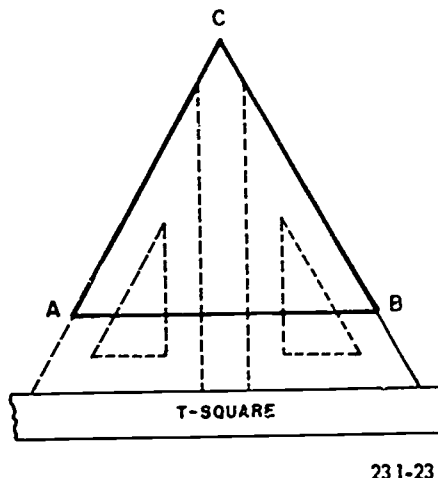

Figure 4-23. Constructing an equilateral triangle with T-square and triangle.
**Construction of an Equilateral Triangle, Using a T-square and Triangle.** This is a convenient method, particularly if the base of the triangle is horizontal. Figure 4-23 illustrates the following procedure.
- (1) Place a 30°-60° triangle against a T-square and draw a line which makes a 60° angle with one end of given base AB.
- (2) Draw a line which makes a 60° angle with the other end of base AB.
- (3) The intersection of these two lines at point C completes the triangle.
**Exercises (035):**